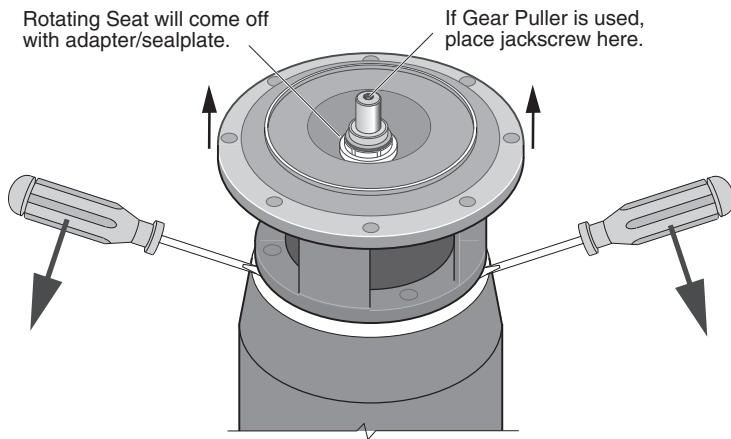

Figure 4
- Step 7. Use two screwdrivers (Figure 4) or bearing puller to carefully separate motor from adapter/seal plate, bringing rotating half of seal (Key No. 10) off with adapter/seal plate. Shaft sleeve (Key No. 2A) may come off with seal.